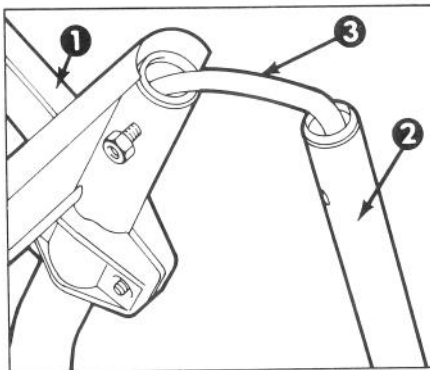

Figure 1
1. Stand snowthrower upright and position upper handle in inverted position to prepare for handle assembly (Fig. 1). Inspect the open internal wiring, if damaged do not assemble; contact your service dealer.
NOTE: Use care so electrical cord will not be damaged (Fig. 1).